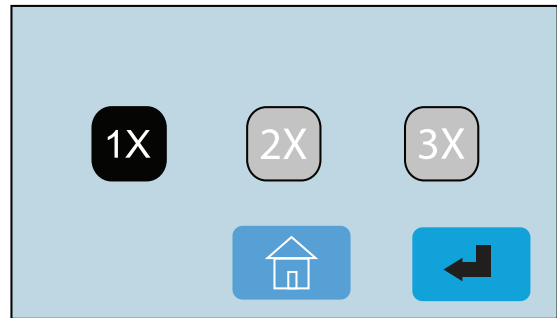

Fig. 44
2. The number of test sheets can be changed to 1, 2, or 3. Press the corresponding test button and then press the enter icon  to save the selection. The chosen icon will be highlighted in black (Fig. 44).